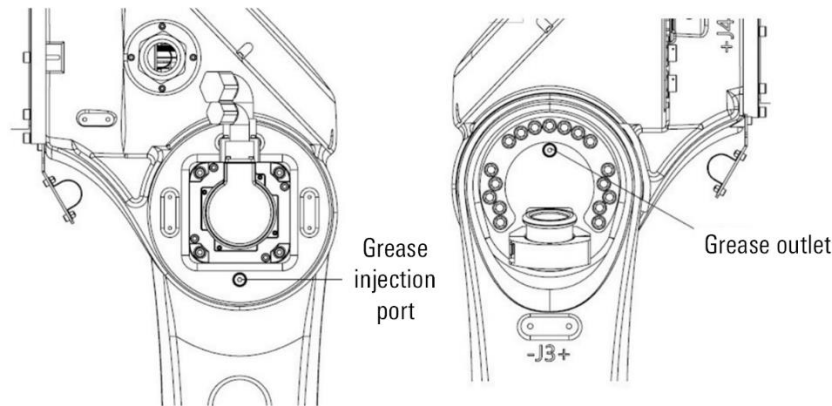

Figure 12-14 Replace the lubricating grease of J3 axis reducer
- Step4. Remove the grease outlet M10x1 plug, as shown in Figure 12-14.